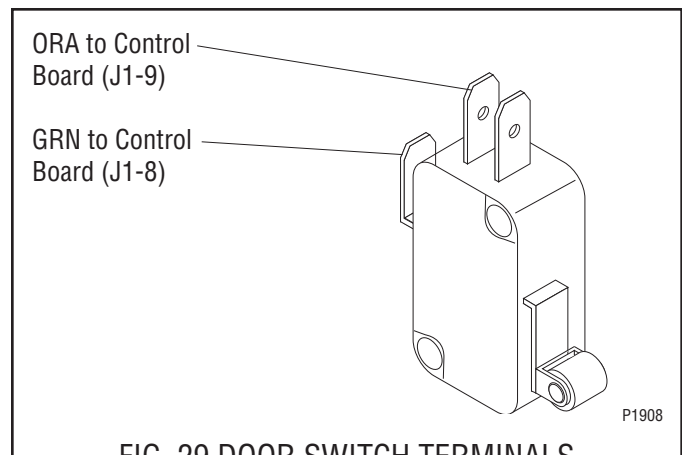

FIG. 29 DOOR SWITCH TERMINALS
14. Reconnect the wires to the door switch. Refer to Fig. 29.